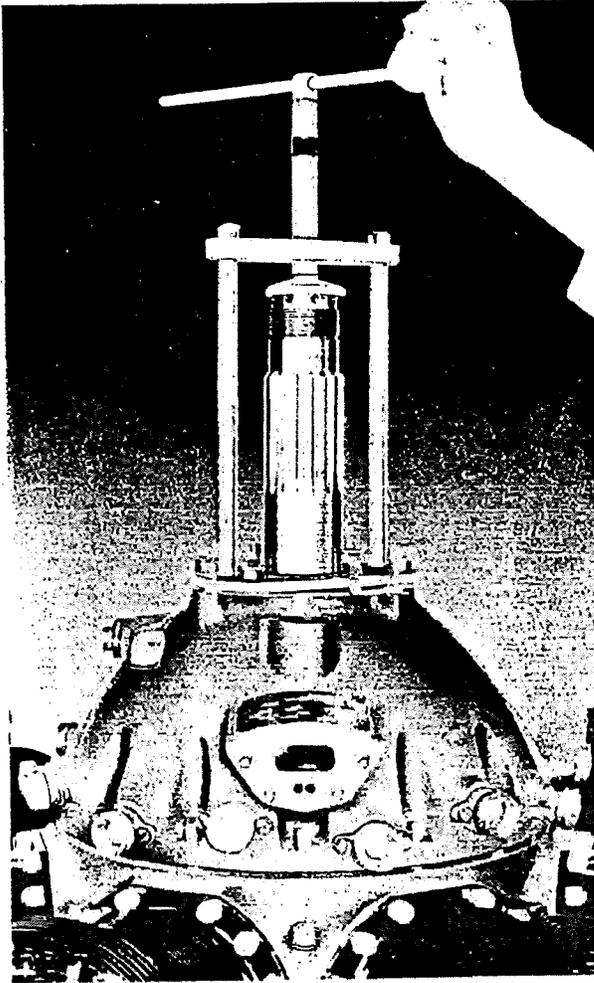

Figure 10 - Removing Front Case
1. Thrust Nut, Thrust Bearing Plate, Front Section.- (1) Remove the thrust nut using Wrench (Tool No. T-348-B).
(2) Remove all attaching nuts and stud spacers holding thrust plate to front case and remove thrust bearing plate by tapping the edge with a rubber mallet.
(3) Remove the crankshaft oil slinger, and thrust bearing plate spacer.
(4) Remove all the nuts and washers holding front case to crankcase and turn engine so that crankshaft is in a vertical position.
(5) Before removing front case rotate the crankshaft three or four revolutions to make sure all tappets are moved to their outer positions. This is necessary in order that the tappet rollers will be moved away from the cam. If not done, the tappet rollers may catch on the cam lobes, causing severe damage to the tappet rollers and pin, cam and tappet guides.
(6) After the above precautions are taken, remove front case with Puller (Tool No. T-7000), being careful the case is not cocked when pulling. Refer to Figure 10.